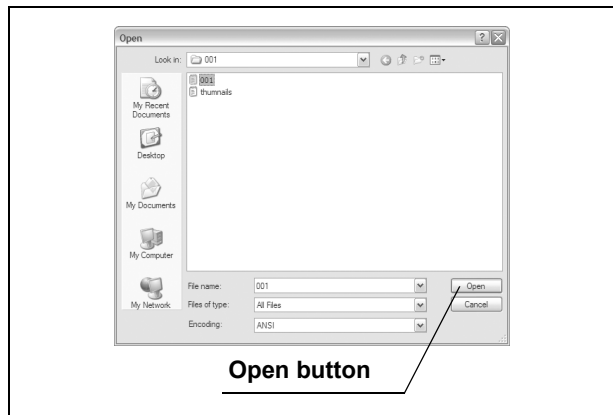

Figure 6.11
3. Select the examination data (***.opg), and click the [Open] button (see Figure 6.11). The examination data is opened.